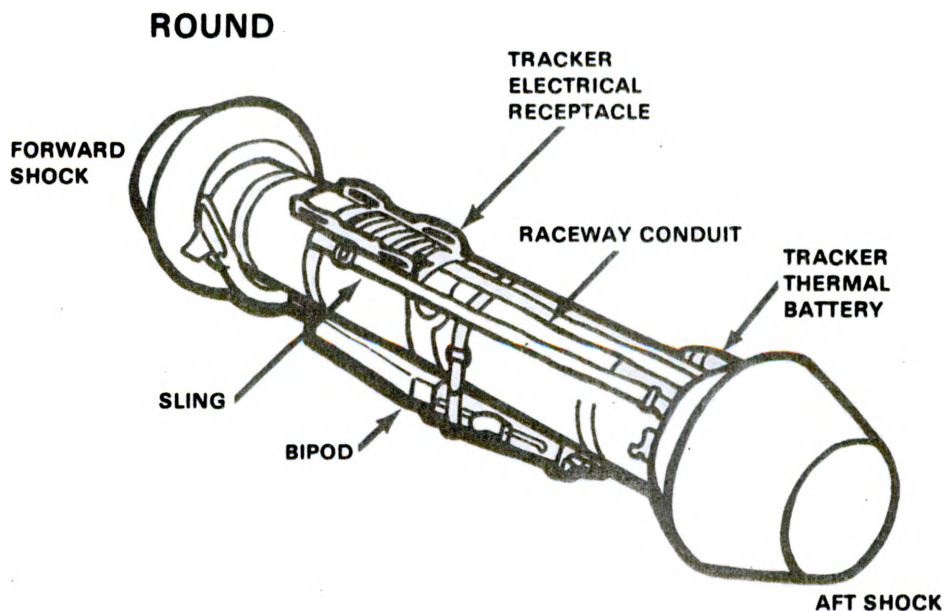

Figure 1
1. Preoperational Inspection of a Round of Ammunition (fig. 1).